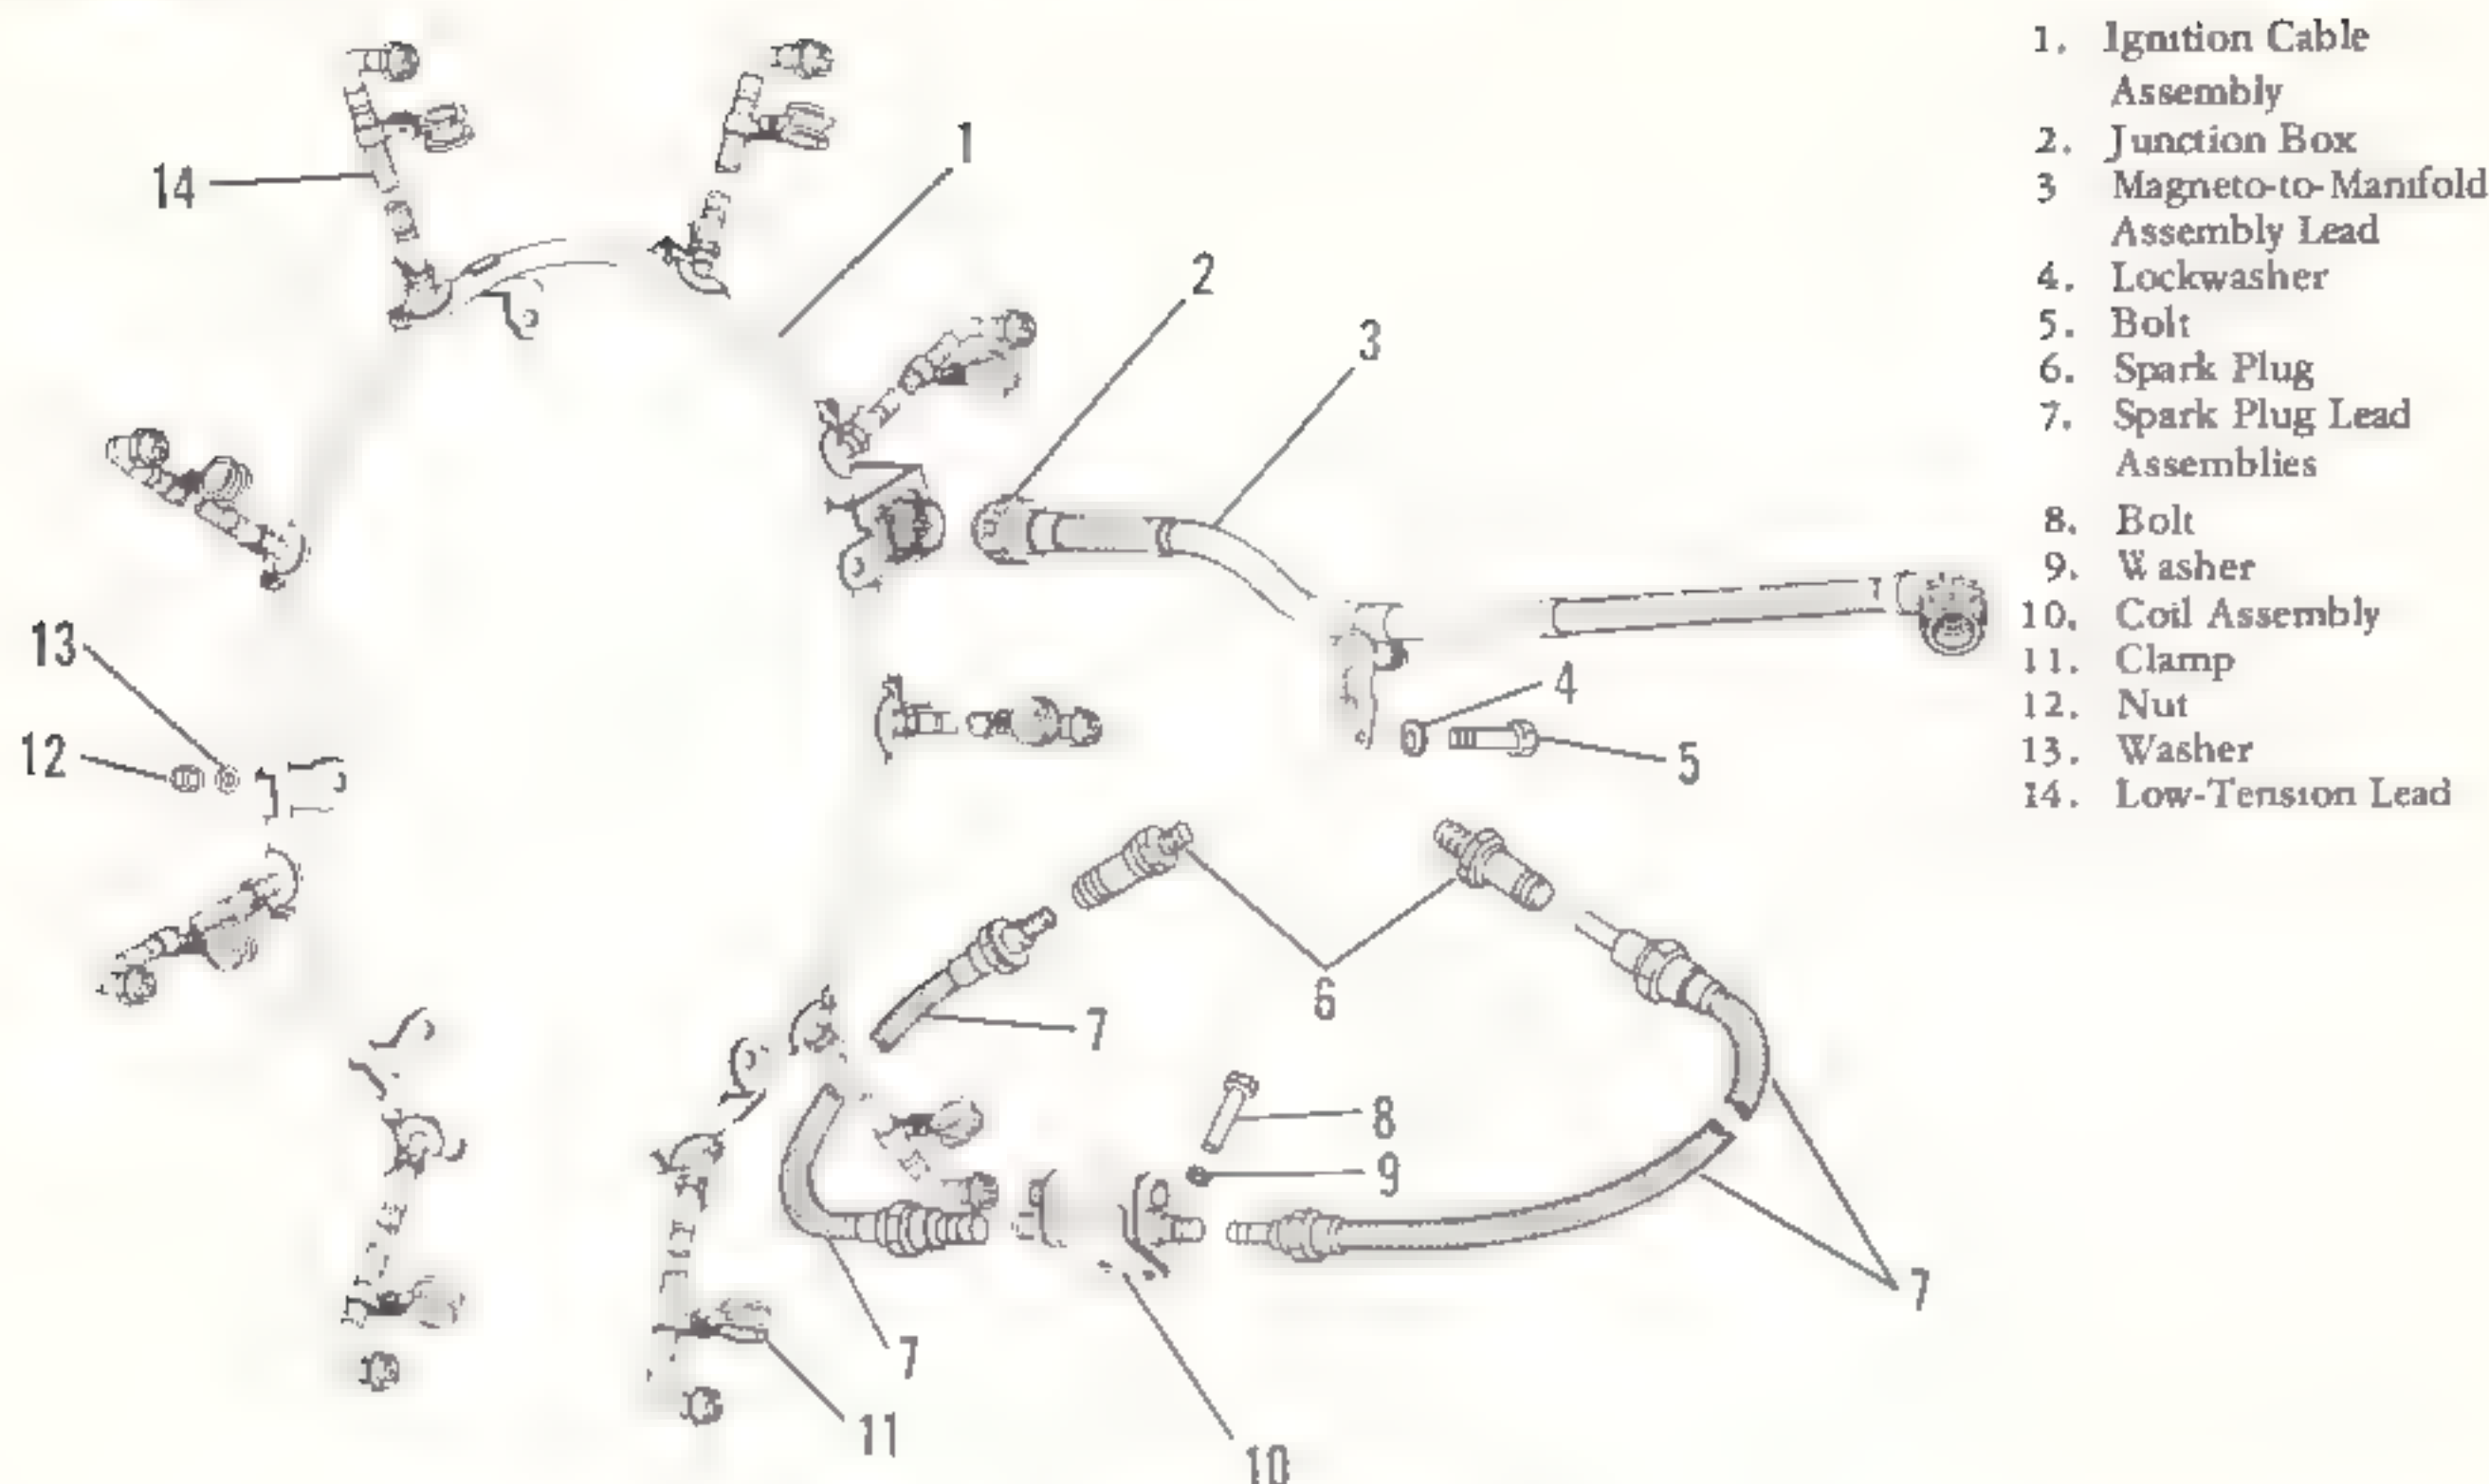

Figure 5-65. Ignition harness assembly and spark plugs
(3) Position landing light switch cover plate on landing light switch housing and secure with screws and lockwashers.
(4) Reset circuit breaker, marked STARTER, ENG PRM, OIL DIL, located on overhead fuse and circuit breaker panel.
5-152. Ignition Harness Assembly. The ignition harness assembly consists of an ignition cable assembly (1, figure 5-65), a magneto-to manifold lead assembly (3), eighteen spark plug lead assemblies (7), and nine coil assemblies (10). The primary purpose of the ignition harness assembly is to electrically shield all ignition cables that carry the current discharged through the distributor block (magneto) directly to each spark plug. High frequency currents induced by ignition spark discharge, are confined to the inside surfaces of the ignition harness assembly and grounded, thus preventing interference waves from impairing reception of controlled radio frequency waves which are required for successful operation of receivers intended for directional devices on other electrical components. In addition, the ignition harness assembly protects insulated cables against mechanical damage such as chafing and abrasion; keeps moisture, oil, grease, gasoline, etc, away from electrical conductors on their insulation; and facilitates dissipation of heat for protection of cable insulation. Current generated and distributed in the magneto is passed at low tension through the ignition cable assembly to the coil assemblies, which are mounted on the intake rocker box housing of each cylinder under each cowl seal channel assembly (10, figure 5-1). The current is increased by the coil assemblies, and is passed at high tension to each of the two spark plugs (6, figure 5-65) per cylinder via the spark plug lead assemblies (7). Current from the magneto is routed to the ignition cable assembly (1) via the junction box (2), located at the front of the engine between cylinder No. 2 and No. 3, and the magneto-to-manifold lead assembly (3). The ignition cable assembly (1) is secured to studs mounted on the engine with nuts (12) and washers (13). The hinged end of each cowl seal channel assembly and each coil assembly is secured to the intake rocker box housing of each cylinder with bolts and washers. The magneto-to-manifold lead assembly (3) is connected to the magneto and ignition cable assembly and secured to the supercharger section of the engine with bolt (5) and lockwasher (4).